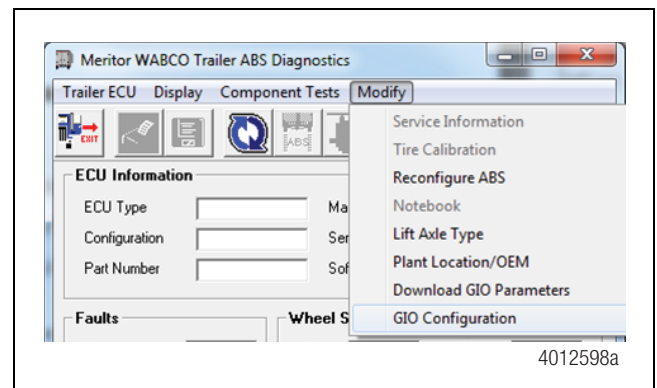

Figure 5
- Activate TOOLBOX™ Software on your PC. Select **GIO Configuration** option from the **Modify** pull-down menu. Figure 5.